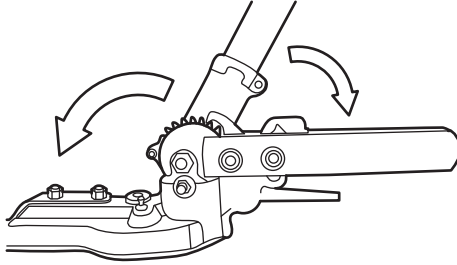

Fig. 15b
b). Move the hedge trimmer shaft (C4) with the other hand until the desired angle is adjusted. (See Fig. 15b)